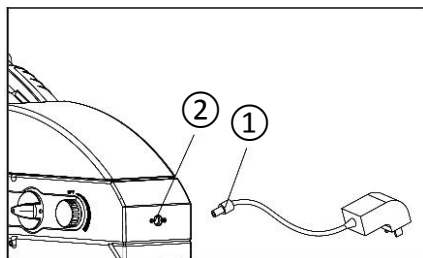

Fig. 24
To connect the external transformer power supply, insert the one end of the transformer ① into the LED fluorescence illuminator socket ②. Insert the other end into an electrical outlet. (Fig. 24)